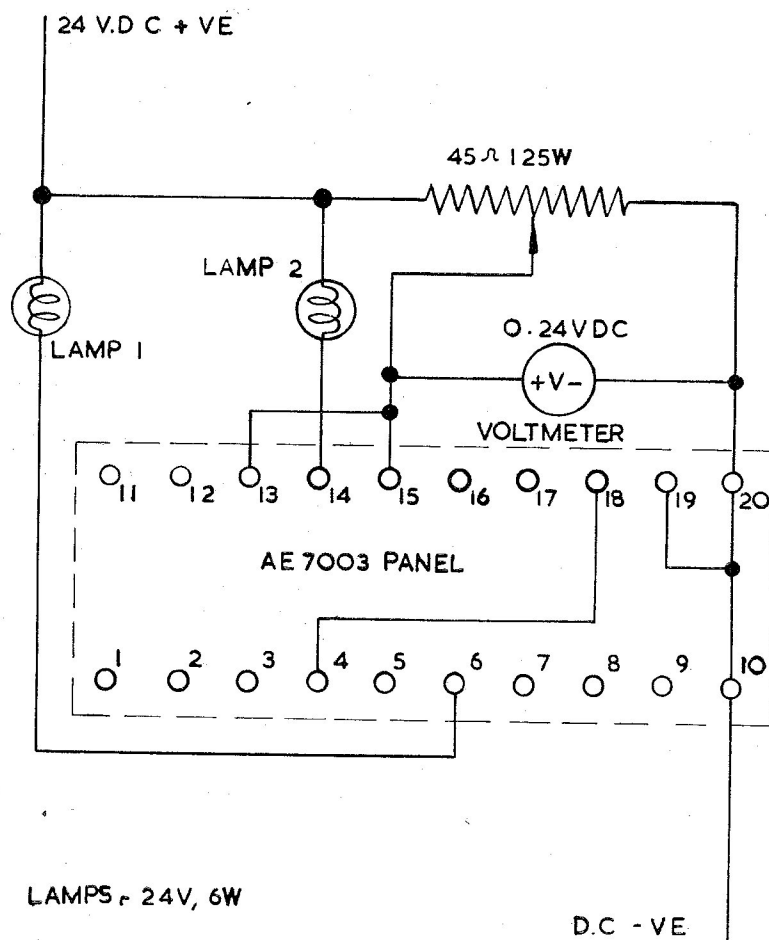

Fig. 4. Test circuit
10. Using a bridge megger connected to 9 and 10 for resistor R1 (fig. 4), and 7 and 8 for resistor R2, check the resistance of each, the value in both instances should be 1 ohm ± 0.1 ohm.
12. Connect the unit into the test circuit (fig. 4), set the potentiometer for zero volts. Lamp 1 only should light.